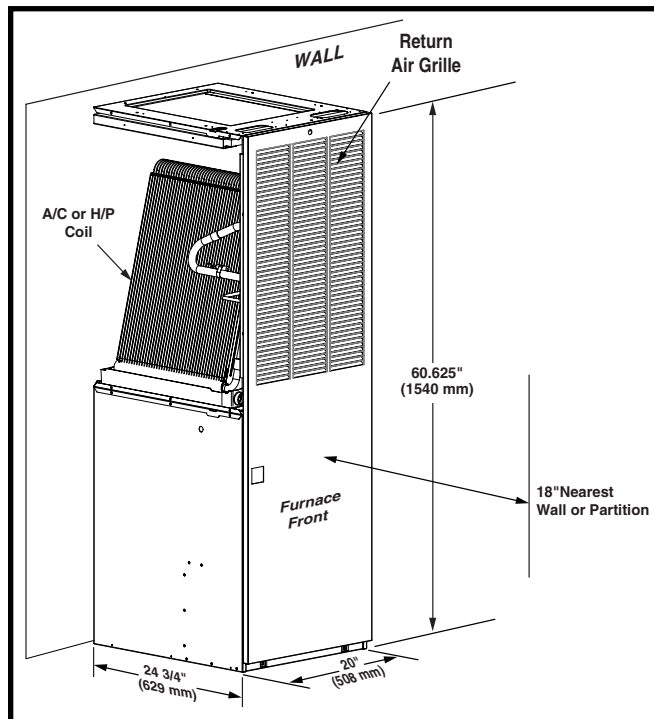

Figure 12. Alcove Installation
- Make sure alcove openings are cut to the dimensions shown in Figure 12 \(page 11\).
- Make sure alcove openings are cut to dimensions shown in Figure 12.